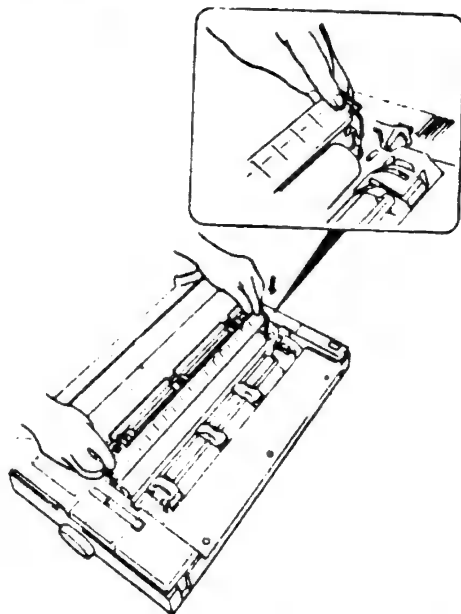

Figure C-12 Installation of Bail Roller Unit
- a) Set the slot of the Bail Roller Unit onto the studs which support the Platen, as shown in Figure C-12.